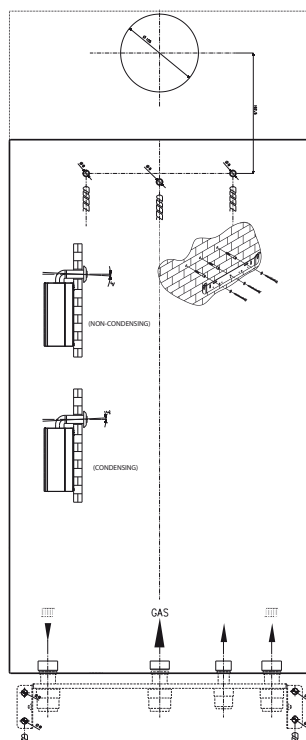

Figure 10.1
10.1 Prior to installing the boiler check the contents of the carton: Appliance, Valves (Fixing Jig Optional), Wall Hanging Bracket, Mounting Template Service, Installation and User Manual, Guarantee Card and Benchmark Log Book. The boiler dimensions are given in *Figure 10.1*.